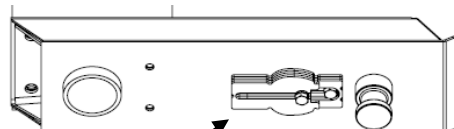
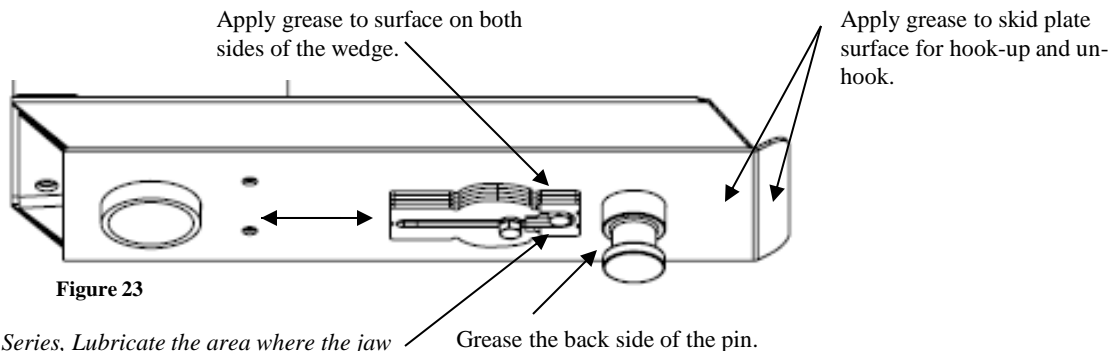

Figure 20
Figure 23
3. Install the universal wedge into the position for Sidewinder™ feature activation (figure 20) , in the proper orientation for your fifth wheel. The bolts will not be fully tightened at this time. (figure 23) Only tighten the (2) 5/8-11 X 1 3/4" wedge bolts until the lock washers begin to engage. The wedge should be allowed to slide with the rap of a hammer or mallet.
4. Apply grease to the surface on both sides of the wedge, the back side of the pin, and the skid plate surface as shown in figure 23. **For Signature Series Fifth Wheel Heads, lubricate the area where the jaw passes under the wedge.*